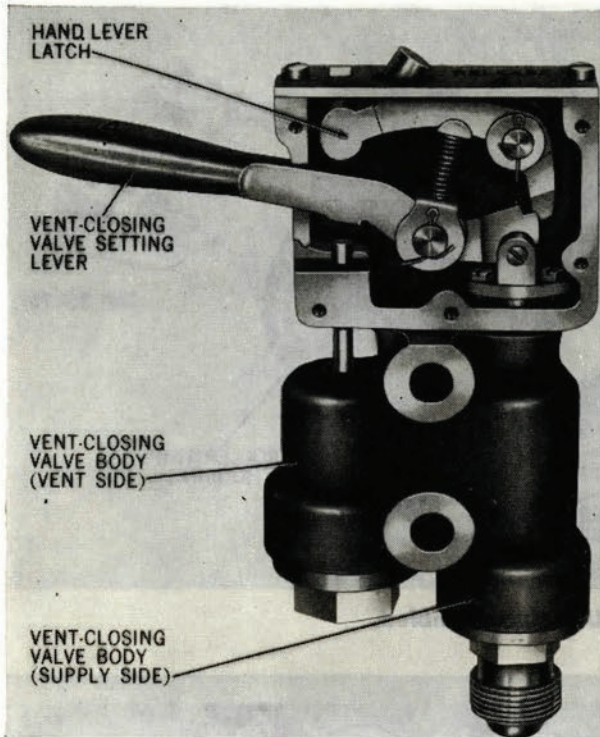
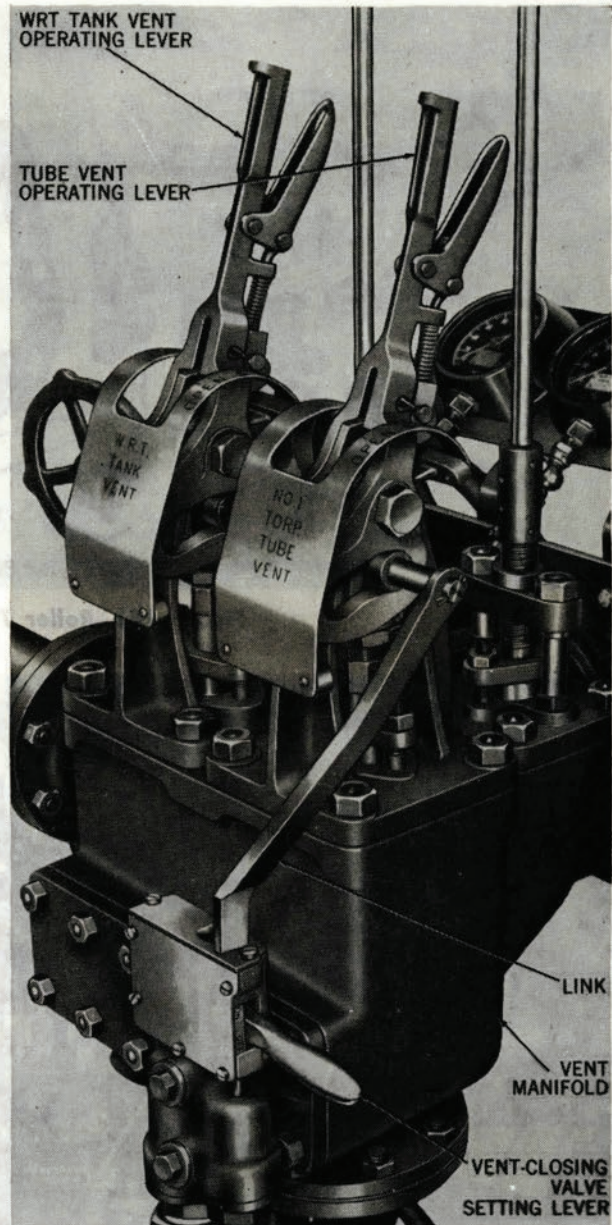

Figure 183—Vent-Closing Valve at ON.
Figure 185—Tube Vent Valve Connection to Vent-Closing Valve.
Each time it is to be used, the poppet valve must be set by moving the vent-closing valve setting lever to ON, figure 183, allowing ship service air to pass to the operating unit. After firing, the poppet valve must be closed by one of the following operations:
The operation described in (2) also moves the vent-closing valve setting lever to OFF by means of a link connecting the two valves, figure 185. This causes the poppet valve to close and the tube vent valve to open, so that the remaining air can escape. When venting is completed, the tube vent is closed.
The vent-closing valve actually includes two spring-loaded valves within a single housing. A manual setting lever may be set at ON or at OFF, figures 183 and 184. At ON, the lever acts through a valve plunger to force the supply valve open against its spring. With the lever in this position, the vent valve is closed. With the lever at OFF, the supply valve is closed and the vent valve is forced open by the lever, which pushes directly down on the vent valve stem. A mechanical connection to the tube vent valve, figure 185, shifts the lever from ON to OFF when the tube vent is opened. The setting lever is held to ON by a latch that engages an extension of the lever. To move the lever to OFF, either directly or by opening the